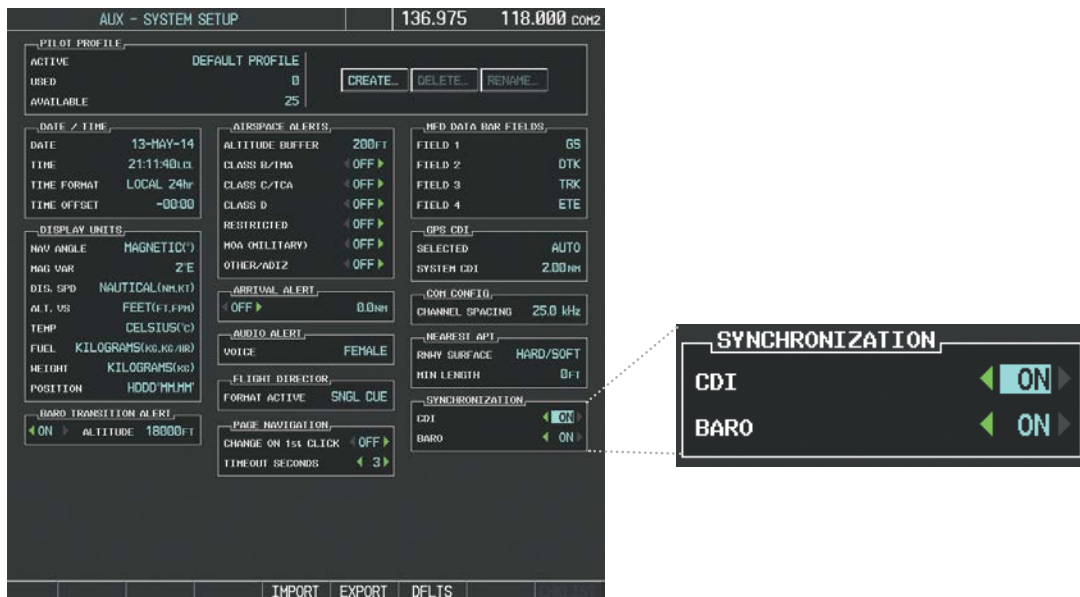

Figure 2-28 System Setup Page, CDI Synchronization
- During **approach**, the CDI scale ramps down even further (Figures 2-28 and 2-29). This transition normally occurs within 2.0 nm of the Final Approach Fix (FAF). The CDI switches to approach scaling automatically once the approach procedure is active or if Vectors-To-Final (VTF) are selected.